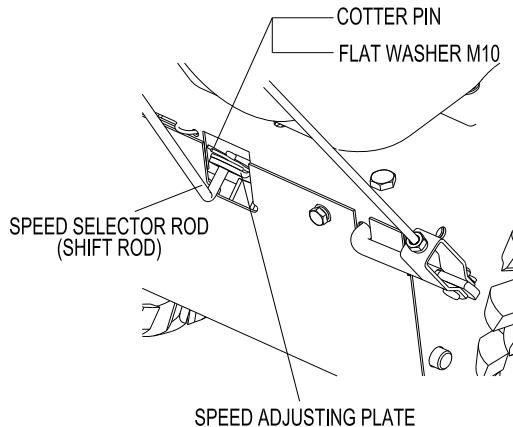
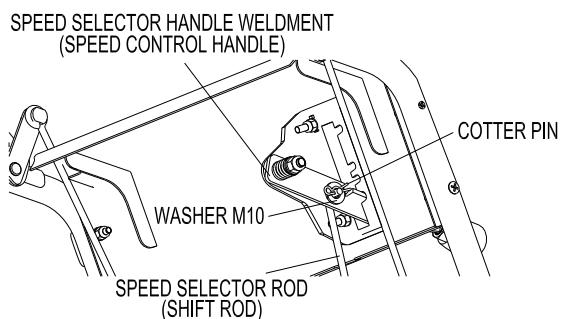

FIG 8
FIG 9
**2.5.1** Install the shift rod into the hole located at the bottom of the speed control handle on the upper handle; attach by adding flat washer and insert cotter pin. Attach the other end of rod to the speed adjusting plate, located at the back center of the engine support frame, with the washer and cotter pin. (FIG 8, FIG 9)